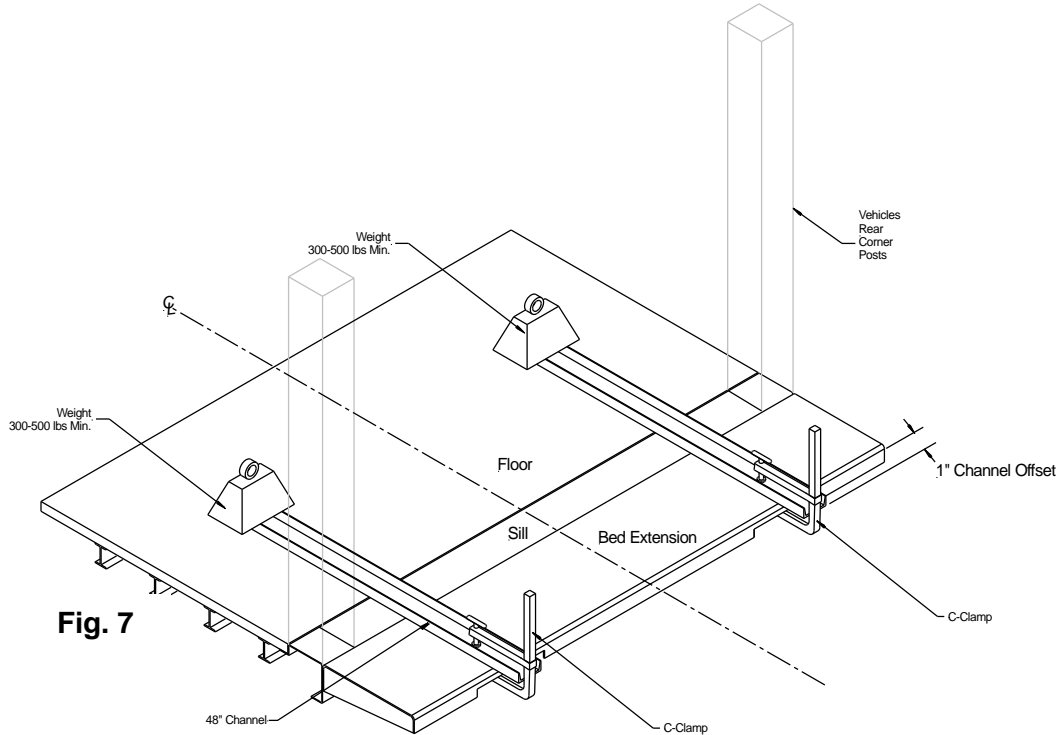

Fig. 7
1. Center bed extension to vehicle body. Lay channels flush with the bed extension, sill, and floor. If tack welding the channels, tack weld channels or angles to bed extension and sill. If not tack welding the channels, use proper weights and clamps to maintain channels in a flush position. Keep the channels in place as they will serve to level the platform during installation, **Fig. 7.**